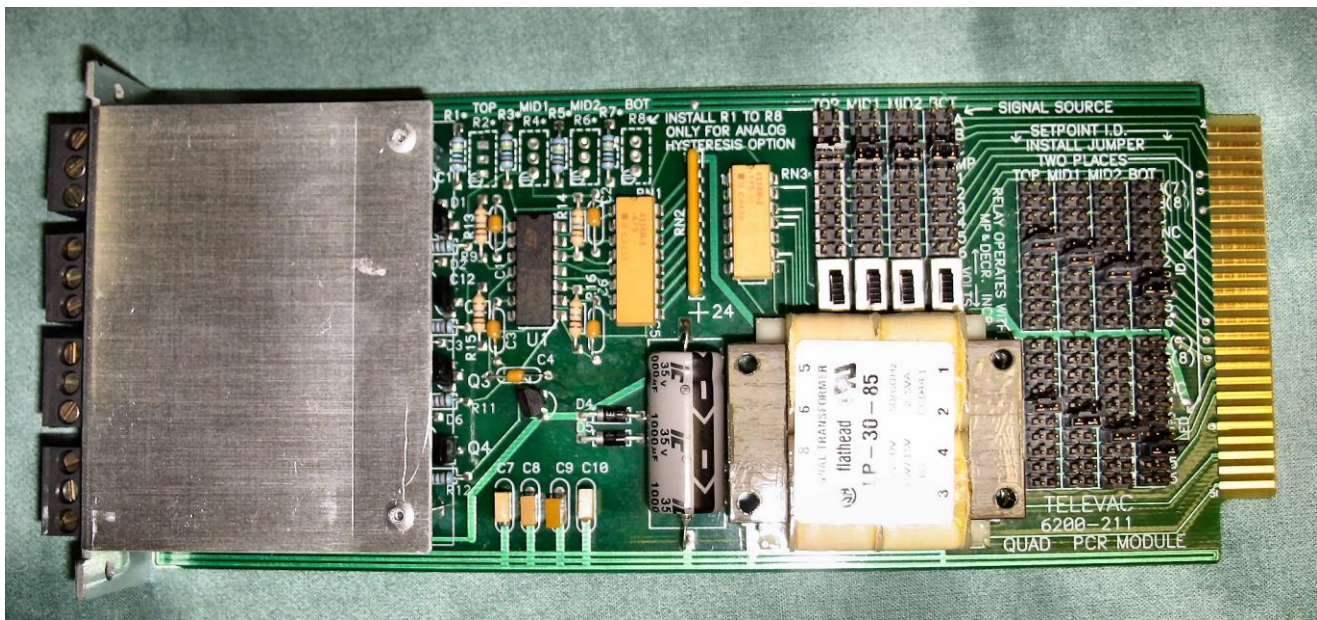
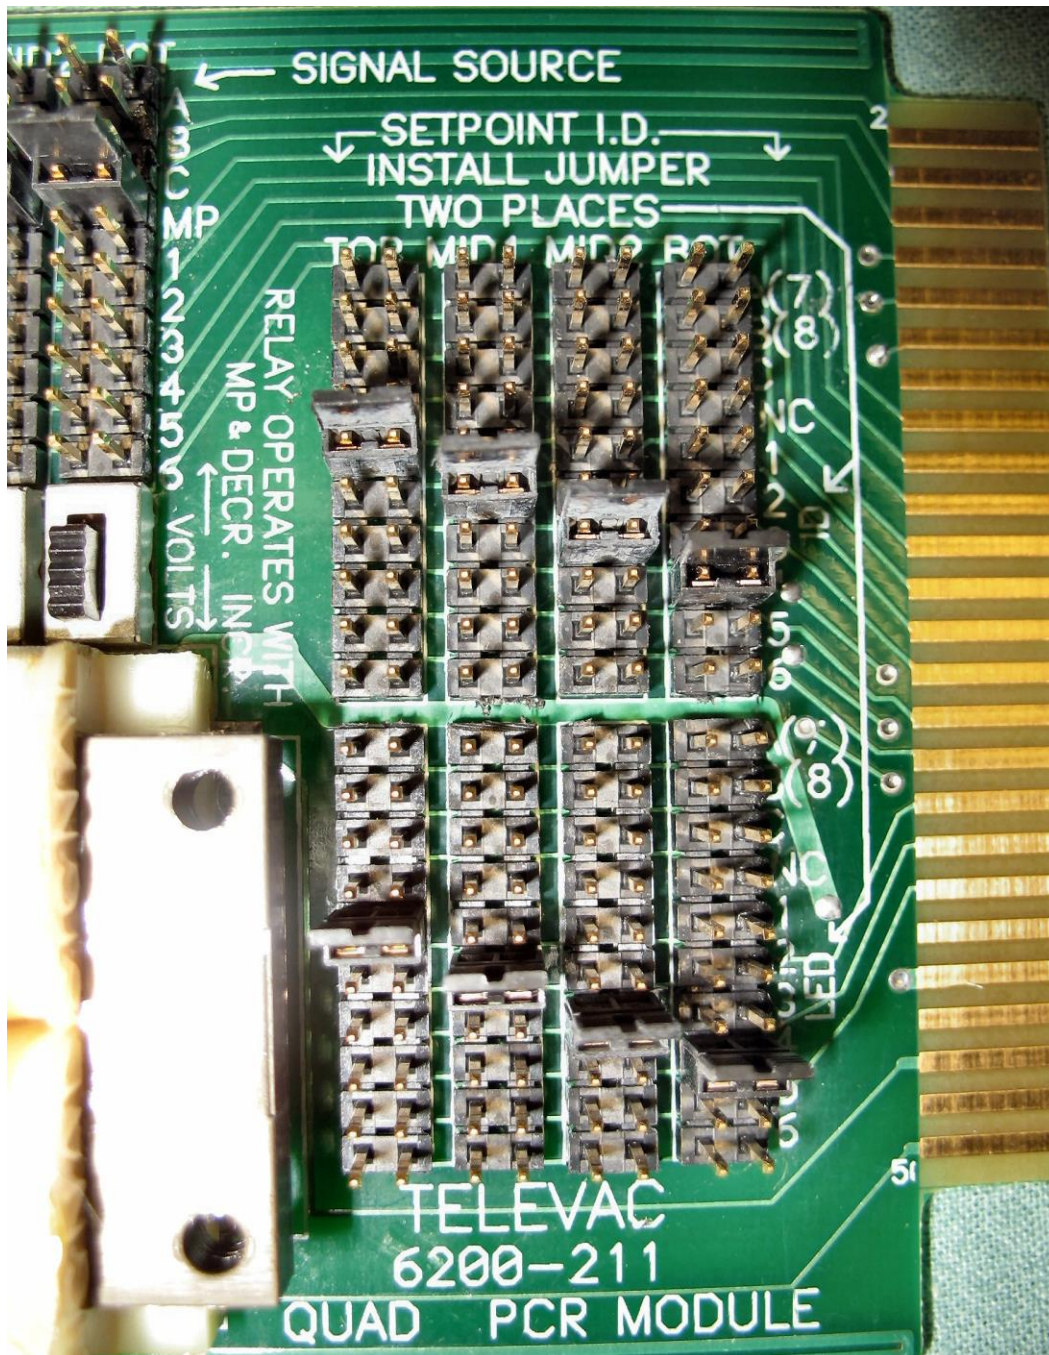

Fig. 9.1a - Setpoint Relay Module
Fig. 9.1b - Details of the Setpoint Relay Module
**SETPOINT RELAY MODULE** - A setpoint process control relay module is shown in Fig. 9.1a. The assignment of identification numbers for this module (usually done at the factory) is accomplished by placing jumpers on the appropriate pins in the SETPOINT ID section of the module. Note that two (2) sets of jumpers are required. The SIGNAL SOURCE section is used for the MM200 and jumpers should be installed in all four MP locations. Switches S1 through S4 should be set in the "MP" (or upper) position. See Fig. 9.1b for details.